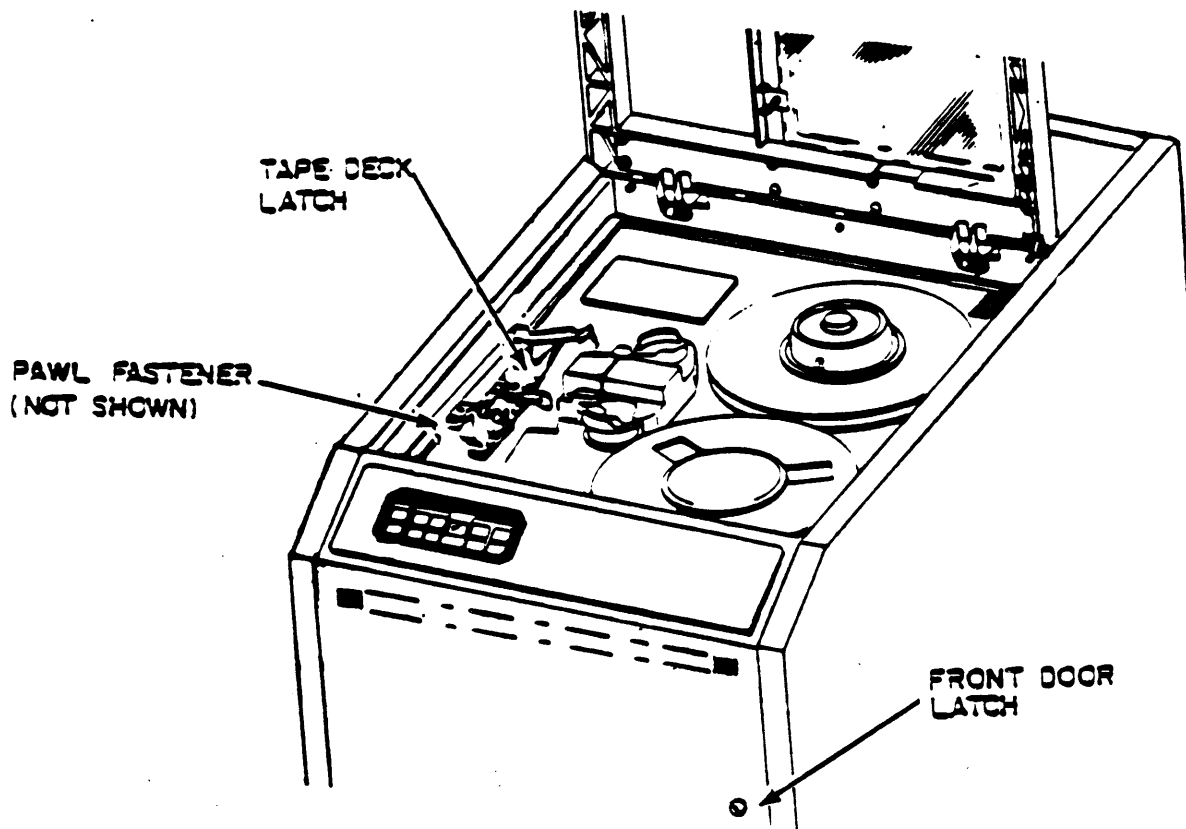

Figure 3-18. Tape Deck Access
12. Open the front dust cover door latch with a 1/8 inch hex wrench. See figure 3-18.